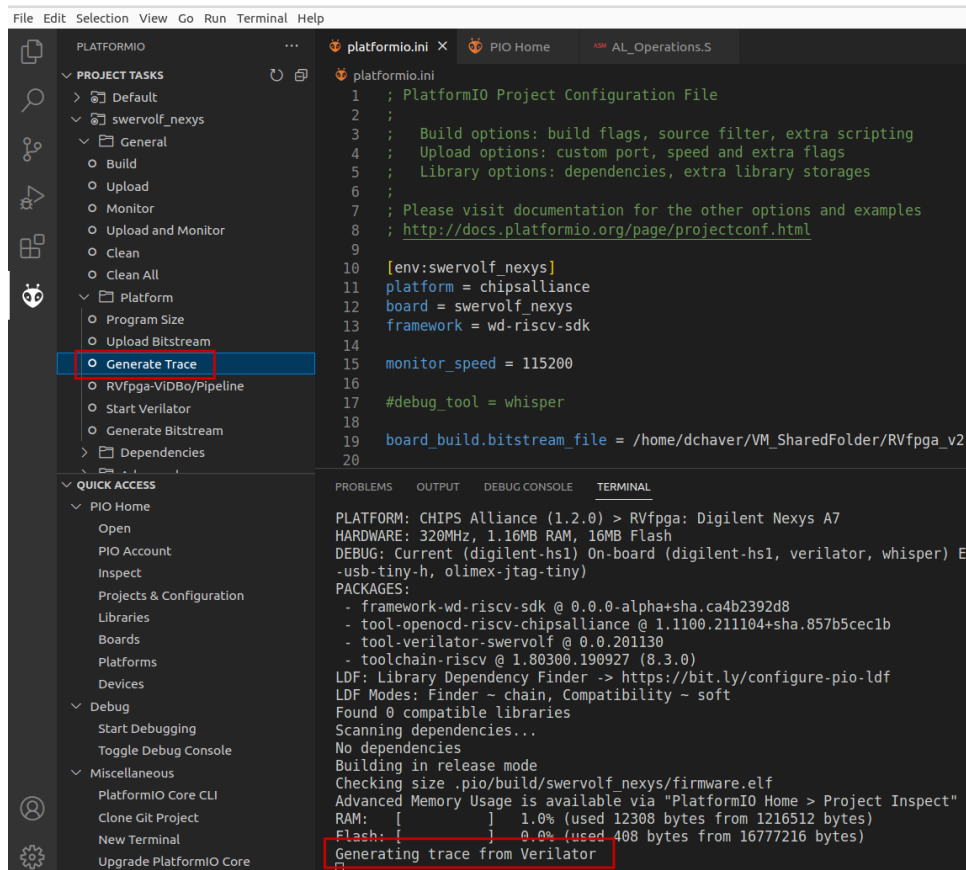

Figure 109. Generating Trace from Verilator
- c. Then expand *PROJECT TASKS* > *env:swervolf_nexys* > *Platform* and click on **Generate Trace** (see Figure 109). This first compiles the program and then launches the Verilator simulation of the RVfpga SoC running this program.